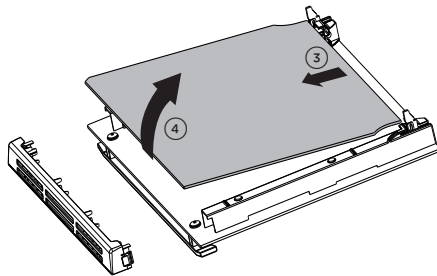

Fig. 11.22
- Gently lift and pull out the inner pane of glass by releasing it from the bottom retainers. Do not angle the pane too much as you may damage the glass (fig. 11.22).